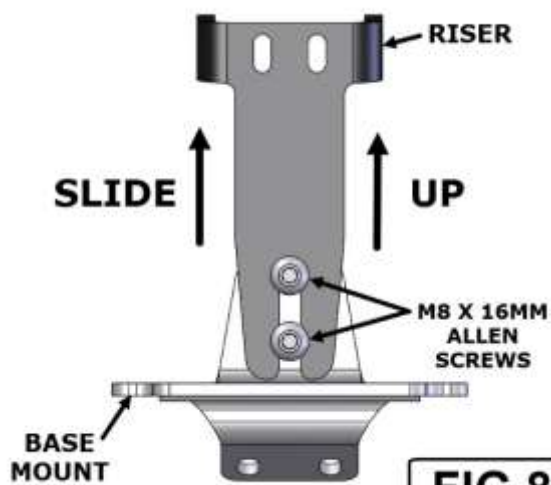

FIG. 8
10. PLACE THE SUPPLIED RISER ON THE TWO SCREWS AS SHOWN IN FIG. 8. USING A 5MM ALLEN WRENCH AND A 13MM WRENCH ADJUST AND TIGHTEN THE SCREWS AND JAM NUTS SO THAT THE HEAD OF THE SCREW IS AS CLOSE AS POSSIBLE TO THE RISER BUT THE RISER WILL STILL SLIDE OFF OF THE SCREWS.